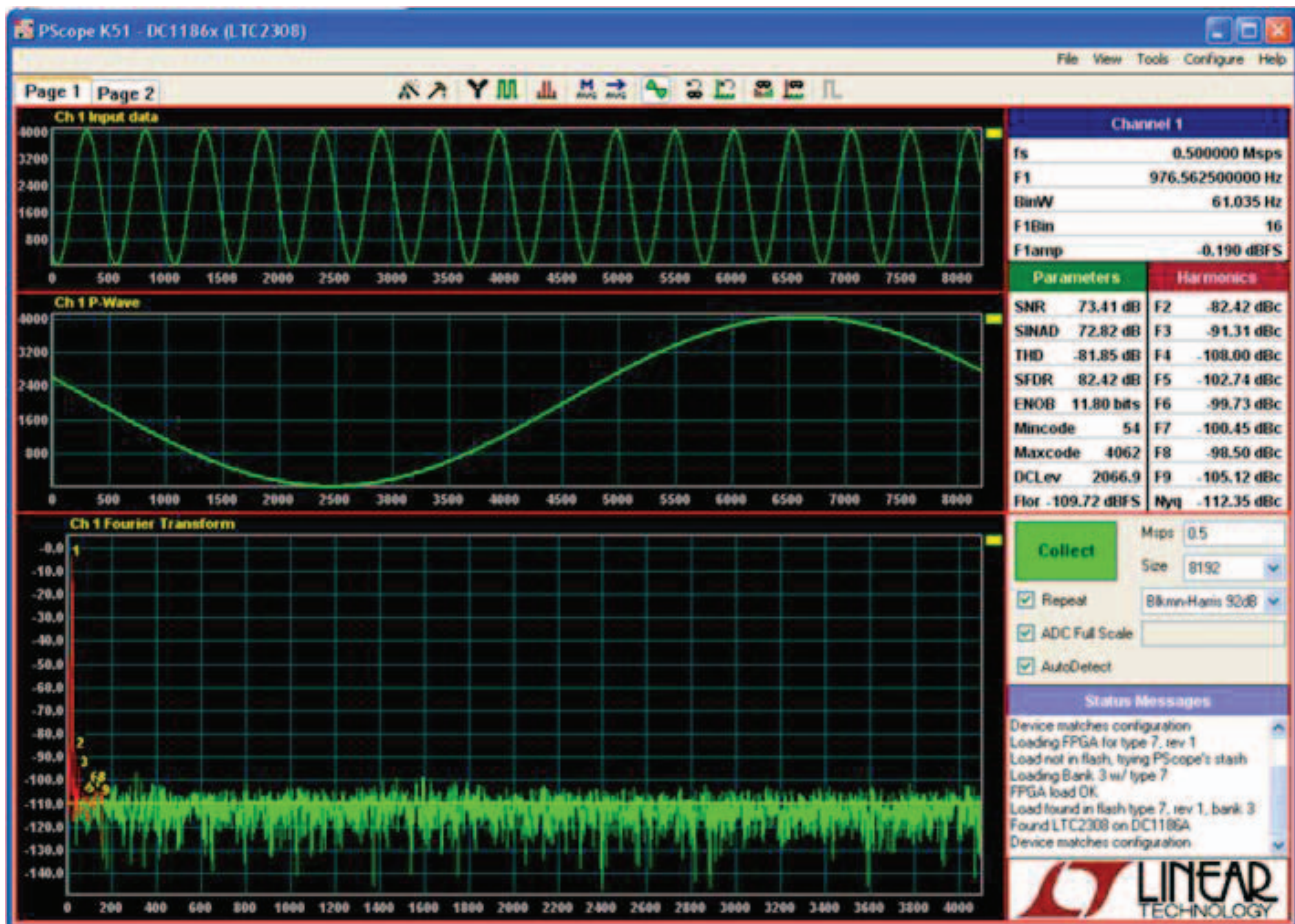

Figure 4. DC1186A PScope Screenshot
- Click the Collect button (see Figure 4) to begin acquiring data. Depending on which board was previously used by PScope, it may be necessary to press Collect a second time. The Collect button then changes to Pause, which can be used to pause data acquisition.